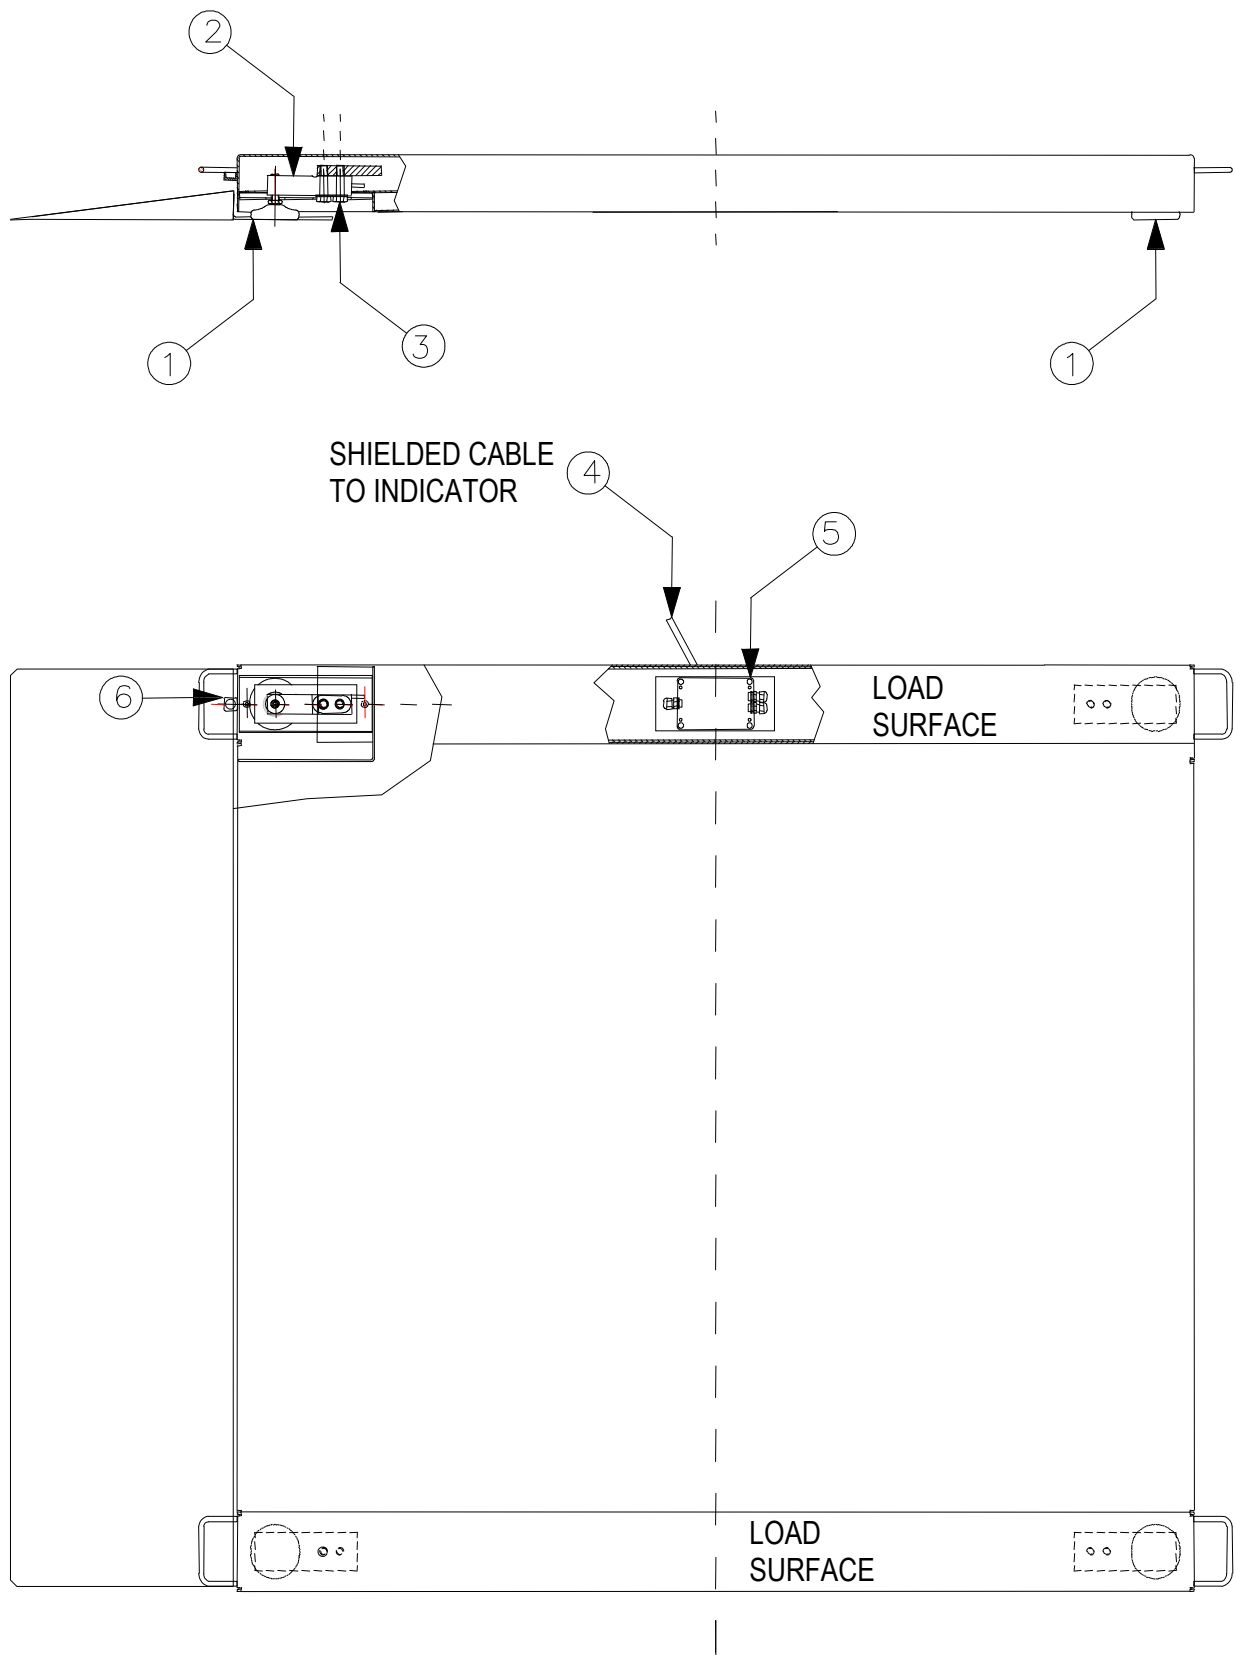

Fig.2
- c) Open the trapdoor (the platform LP, 5 fig.2) (the platform LP, 5 fig.3) by removing its screws, and connect the screened cable, connected to the junction box, at the instrument. The cable must be free, so that the resistances are not energised, which could alter the measurement. Refer to chapter 8 for cables colour and function.
- d) Reposition the trapdoor (5 fig.2 and 5 fig.3) on the loading top using its screws.